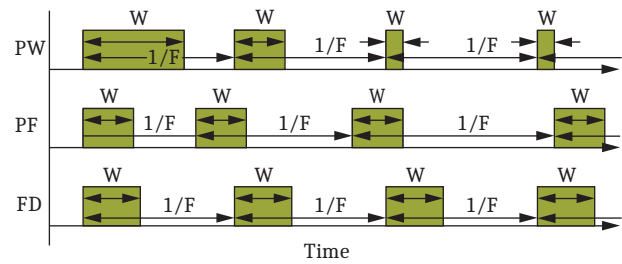

Figure 30 Control Pulses
- **Proportional Width (PW).** The pulse width (W in *Figure 30*) is proportional to the error signal (slip or voltage difference) and the pulse period is fixed.
- **Proportional Frequency (PF).** The pulse width is fixed and the pulse frequency (F in *Figure 30*) is proportional to the error signal. PF may be more suitable in control systems that require a definite minimum pulse width.
- **Fixed (FD).** Both the pulse-width and the pulse frequency are fixed. This control mode may be more suitable for control using certain distributed control systems.